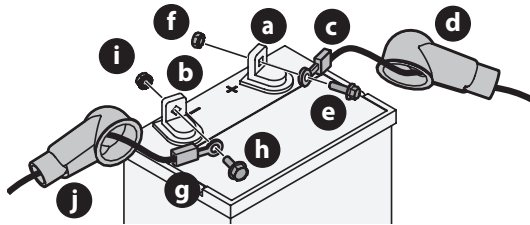

Fig. 4
NOTE: The positive battery terminal is marked POS. (+) (a). The negative battery terminal is marked NEG. (-) (b) (Fig. 4).
NOTE: If the positive battery cable (c) is already attached, skip ahead to Step 4 (Fig. 4).
- Slide the red boot (d), from the positive battery terminal (a) and attach the red cable (c) to the positive battery terminal (a) with the bolt (e) and hex nut (f) (Fig. 4).
- Position the red boot (d) over the positive battery terminal (a) to insulate it and help protect it from corrosion (Fig. 4).
- Slide the black boot (j) from the negative battery terminal (b) and attach the black cable (g) to the negative battery terminal (b) with the bolt (h) and hex nut (i) (Fig. 4).
- Position the black boot (j) over the negative battery terminal (b) to insulate it and help protect it from corrosion (Fig. 4).